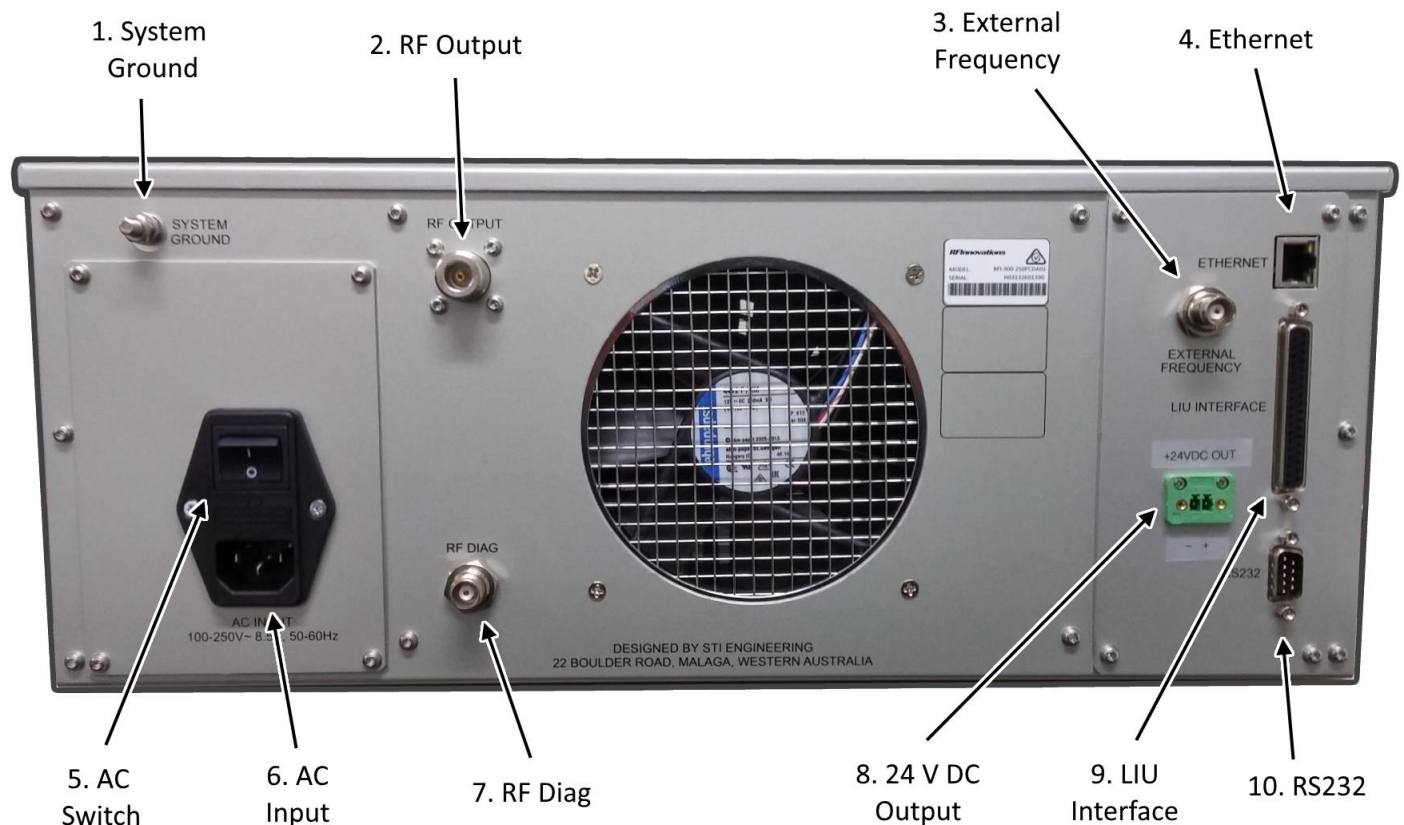

Figure 1: Paging Transmitter Back Panel (AC model shown)
The back panel of the AC model paging transmitter is shown below in Figure 1.
6. **Power Supply Input:** The power supply input is model-specific. The AC input connector is shown in Figure 1.